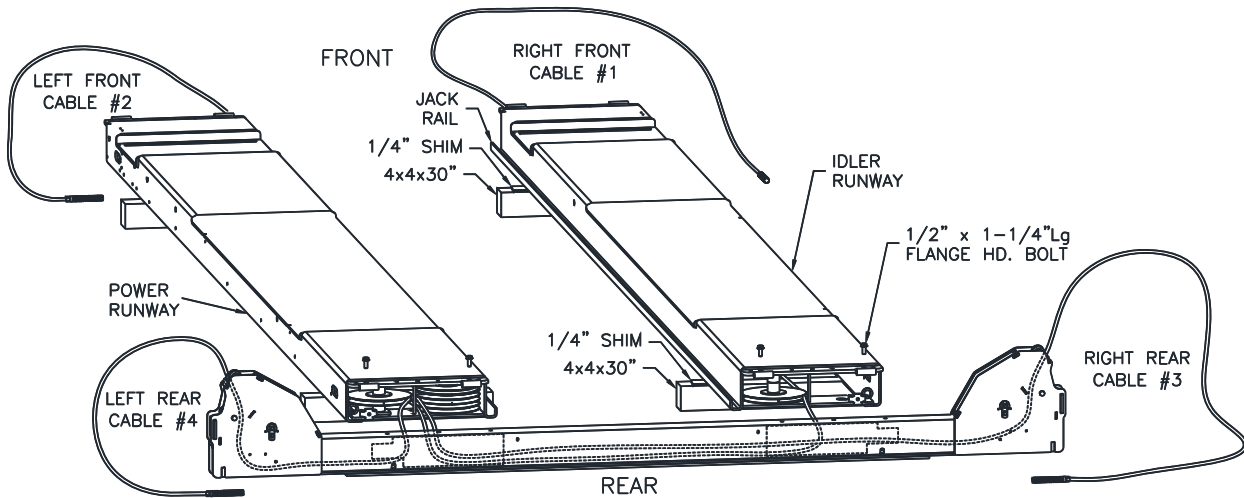

Fig 3 - Runway Layout
rear of the deck). Cut the white cable ties but leave the black cable ties. Pull the three threaded cable ends out the rear and one threaded cable out the front. See **Fig 3**.
- 3) Position runways on blocking (see **Fig 3**) per layout lines established in **Step 1**. Use four 30" long 4x4's spanning the width of the runway to shim up the runway. **Cable #1, #3, & #4** should be extending out from the rear of the power runway and **Cable #2** from the front of the power runway, **Fig 3**. **Check**